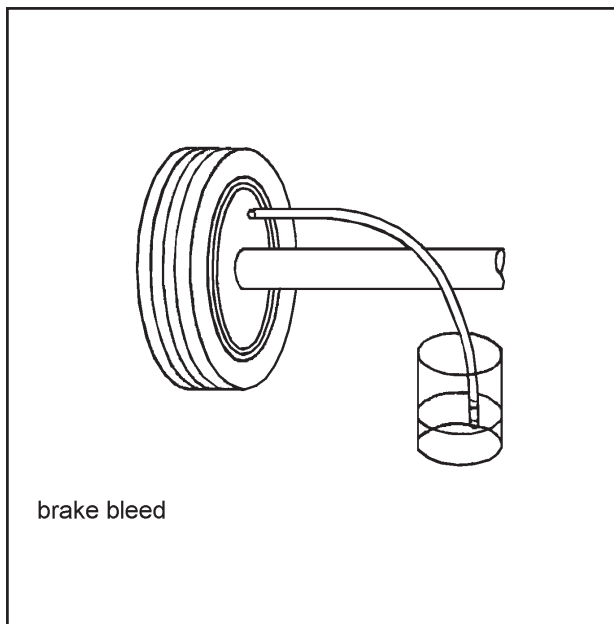

Figure 3-13 Brake Bleed Operation
- 3-18.5** Remove the dust cap from the bleed screw on the electric/hydraulic unit and install plastic tubing onto the bleeder (See Figure 3-13).